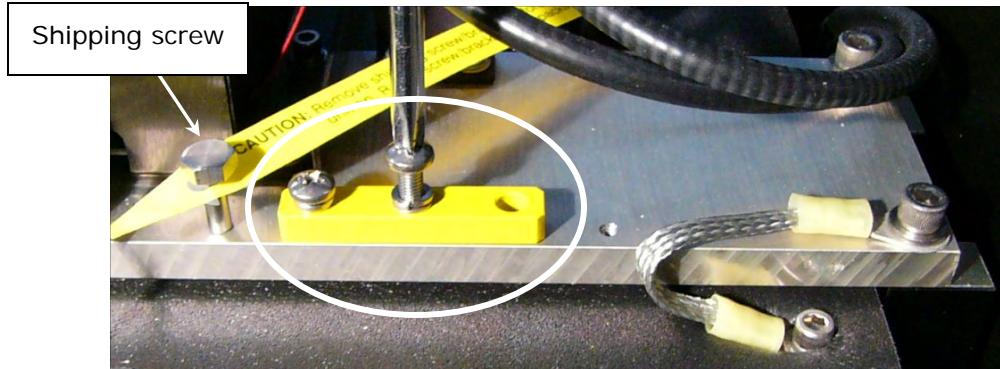

Figure 5: Carrier shipping screw and optic arm shipping bracket stored on the base plate
- Use the supplied wrench to remove the microplate carrier shipping screw (with its o-ring). Store the screw on the base plate as shown in **Figure 5** on page 14.
6. Remove the two screws holding the mirror holder shipping bracket in place. Store the screws and shipping bracket on the base plate shown in **Figure 5**.